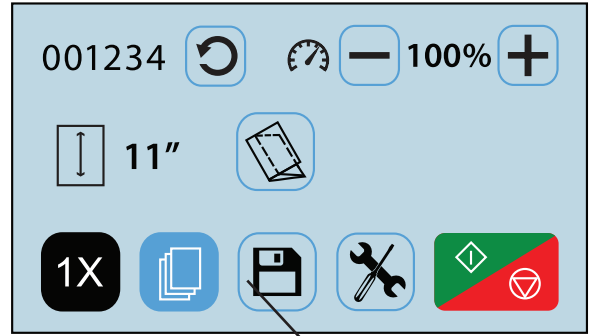

Fig. 30
1. To recall, edit, or delete a saved custom fold from the home screen press the saved job icon  (Fig. 30).